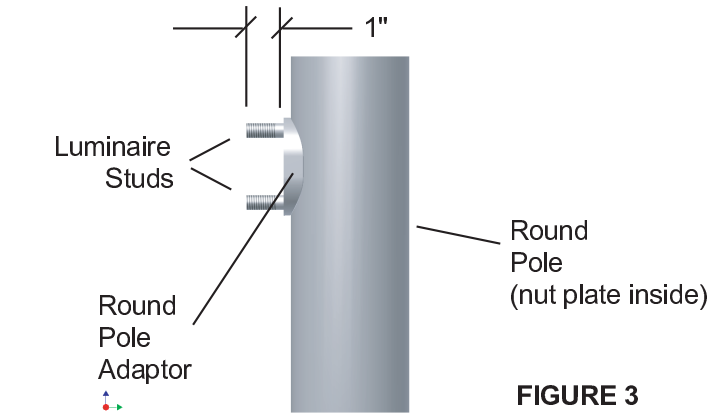

FIGURE 3
B. DIRECTLY TO ROUND POLE - FIGURE 3
- 4. With nut plate inside pole, thread luminaire mounting studs thru round pole adaptor, then thru top and bottom pole holes, then into nut plate. See Figure 3.